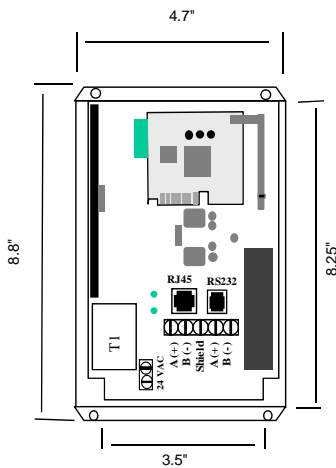

Figure 1
- 24 VAC Input - Connect 24VAC 60 Hz to the input terminals using 20 AWG wire (See Figure 1).
- FTT-10 - Use 20 or 22 gauge shielded twisted pair wire to connect the Transceiver(Terminals "A(+)" & "B(-)") to the LonWorks network (See Figure 1). The connection of the FTT-10 network is not polarity sensitive.